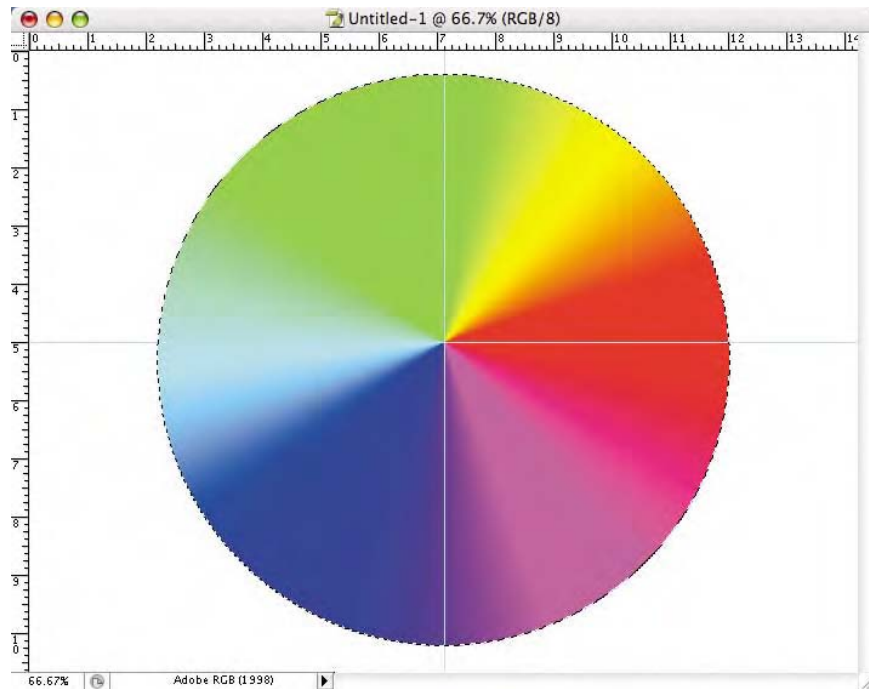

Fig. 9-12-12 Your gradient should look like this.
8. Place your cursor in the dead center of the oval. The guides should make this easy. Hold down the **Shift** key and click from this center point horizontally to the end of the oval (from center to right). You should see a gradient that looks like the one in Fig. 9-12-12.